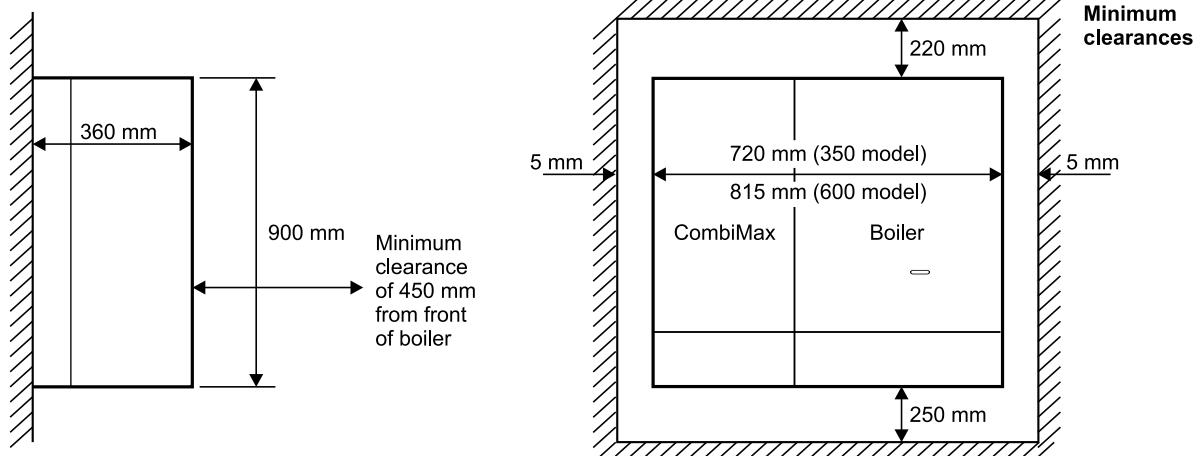

Fig. 2
4.2 CLEARANCES REQUIRED - Fig. 2